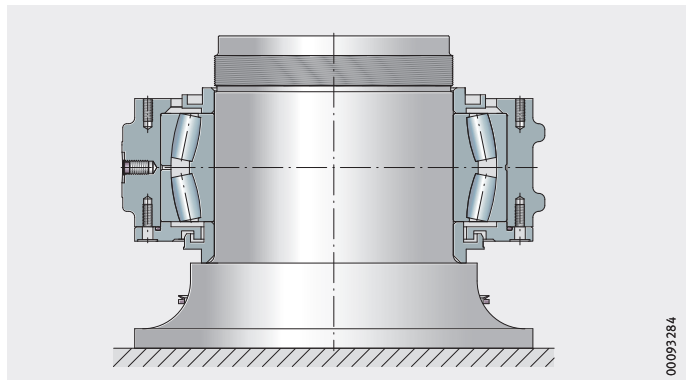

Figure 13
- ▶ Slide the heated labyrinth ring for the gearbox side onto the shaft as far as the bearing inner ring. Observe the correct direction for mounting (labyrinth nose towards the gearbox), *Figure 13*.